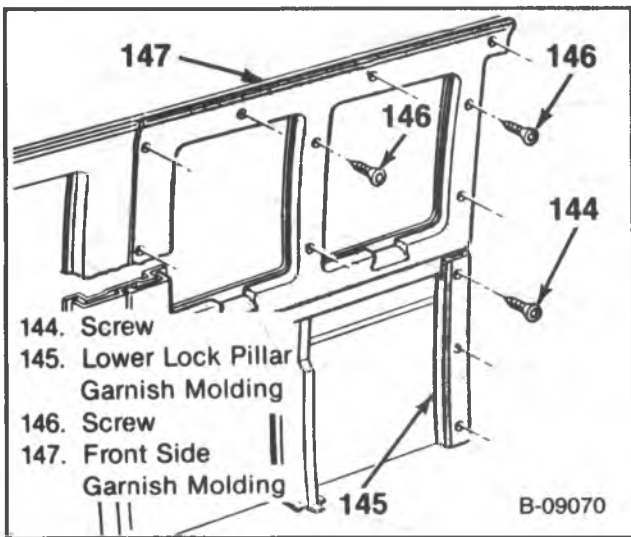

Figure 51 — Front Garnish Moldings
7. Lower lock pillar garnish molding screws and the molding (figure 51).
8. Body side front garnish molding screws and the molding (figure 51).
7. Body side front garnish molding and screws (figure 51).
8. Lower lock pillar garnish molding and screws (figure 51).